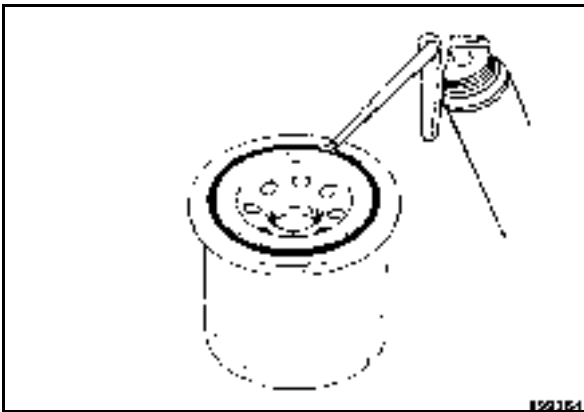

Fig. 100
- Slightly oil the rubber seal on the new filter cartridge (Fig. 100).